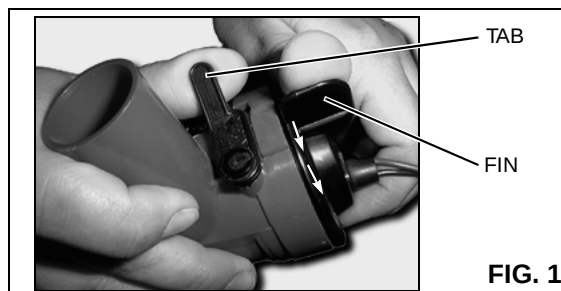

FIG. 1
1. Lift the tab while rotating the fins counter-clockwise and lift out the power cartridge (Fig. 1).